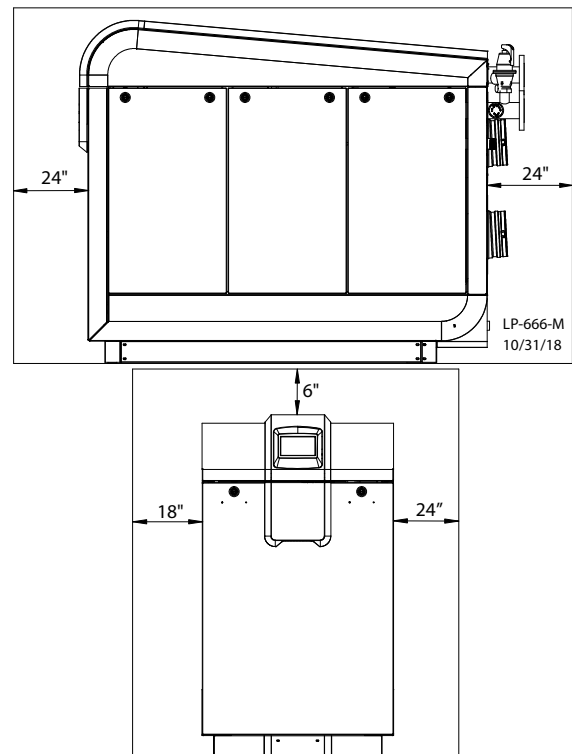

Figure 6 - Recommended Service Clearances
**NOTE:** If you do not provide the minimum clearances shown in Figure 6 it might not be possible to service the VWH without removing it from the space.